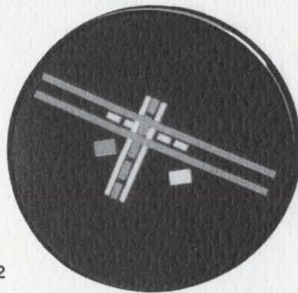

Fig. 2
In air-traffic control displays, for example, these CRTs could be used to provide quick and positive information on different altitudes or stacked aircraft problems. Different colors could be used to indicate various runways, holding patterns or air traffic lanes (see Fig. 2).
Fig. 2. TTL system simultaneously accepts an 8-bit binary addend (A), and 8-bit binary augend (B), adds and averages them and converts the result to Binary-Coded Decimal. BCD is a normal code for operating "Nixie" tubes, EL displays, digital displays and other types of CRT readout.
As in the air traffic pattern at left (Fig. 2), different shapes and symbols may be used to differentiate between aircraft. Direction of flight travel or wind direction may be indicated by arrows or other appropriate symbols. An aircraft symbol may be accompanied by a numeric readout to indicate flight number and altitude as well as position. There's literally no limit to what you can do.
Fig. 2. Any number of elements may be combined into an uninterrupted large-board display like this air-traffic control pattern of an area of the Atlantic Ocean just east of Cape Cod. The outline of the Cape, airplanes and various aircraft in the vicinity are readily visible.
Microphonics — noise generated by mechanical motion of internal parts within a device—can also be a problem in doppler systems using low frequency i-fs. Figure 2 shows comparative microphonics output of a typical point-contact diode when subjected to shock, and a Sylvania Schottky diode when subjected to an equivalent shock. The figure speaks for itself: essentially no microphonics with the Schottky diode.